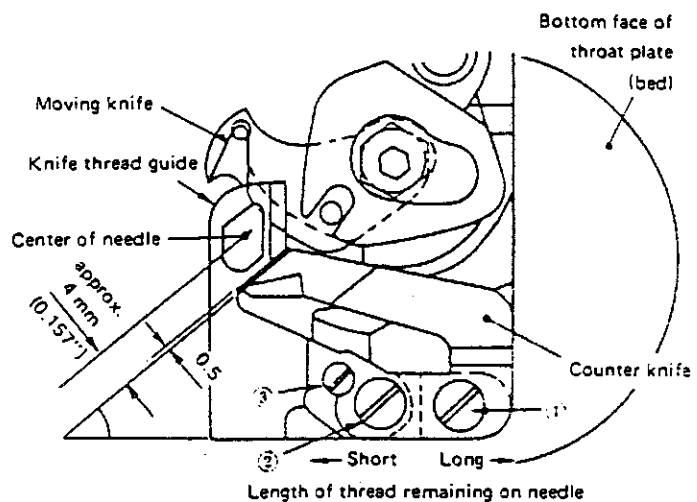
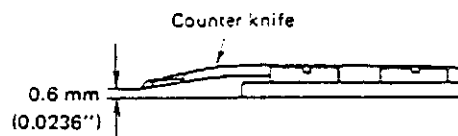

Fig. 17
Fig. 18
Refer to Fig. 17 for proper installation of the counter knife. The standard distance from the blade point of the counter knife to the knife thread guide, which is positioned so that the needle enters the center of its opening, is 0.5 mm (0.019"). At this time, the blade point of the counter knife is about 4 mm (0.157") away from the center of the needle. The blade point of the counter knife is located 0.6 mm (0.0236") above the installing surface as shown in Fig. 18.
Change the knife thread guide by loosening screws ② and ③, with screw ① (Fig. 17) left tightened. If the installing angle of the counter knife has been disturbed, readjust it in accordance with 3-8. "Installing the counter knife".